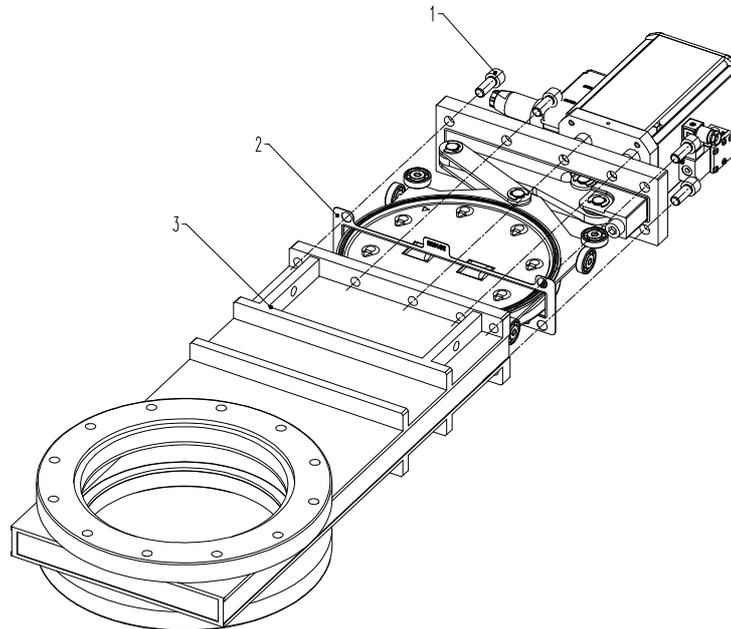

Figure 6-1
5. Remove screws (1) according to «Figure 6-1» on page 17.
6. Withdraw actuator / mechanism unit carefully from body without touching the body wall; see «Figure 6-1» on page 17
21. Mount screws (1) according to «Figure 6-1» on page 17.